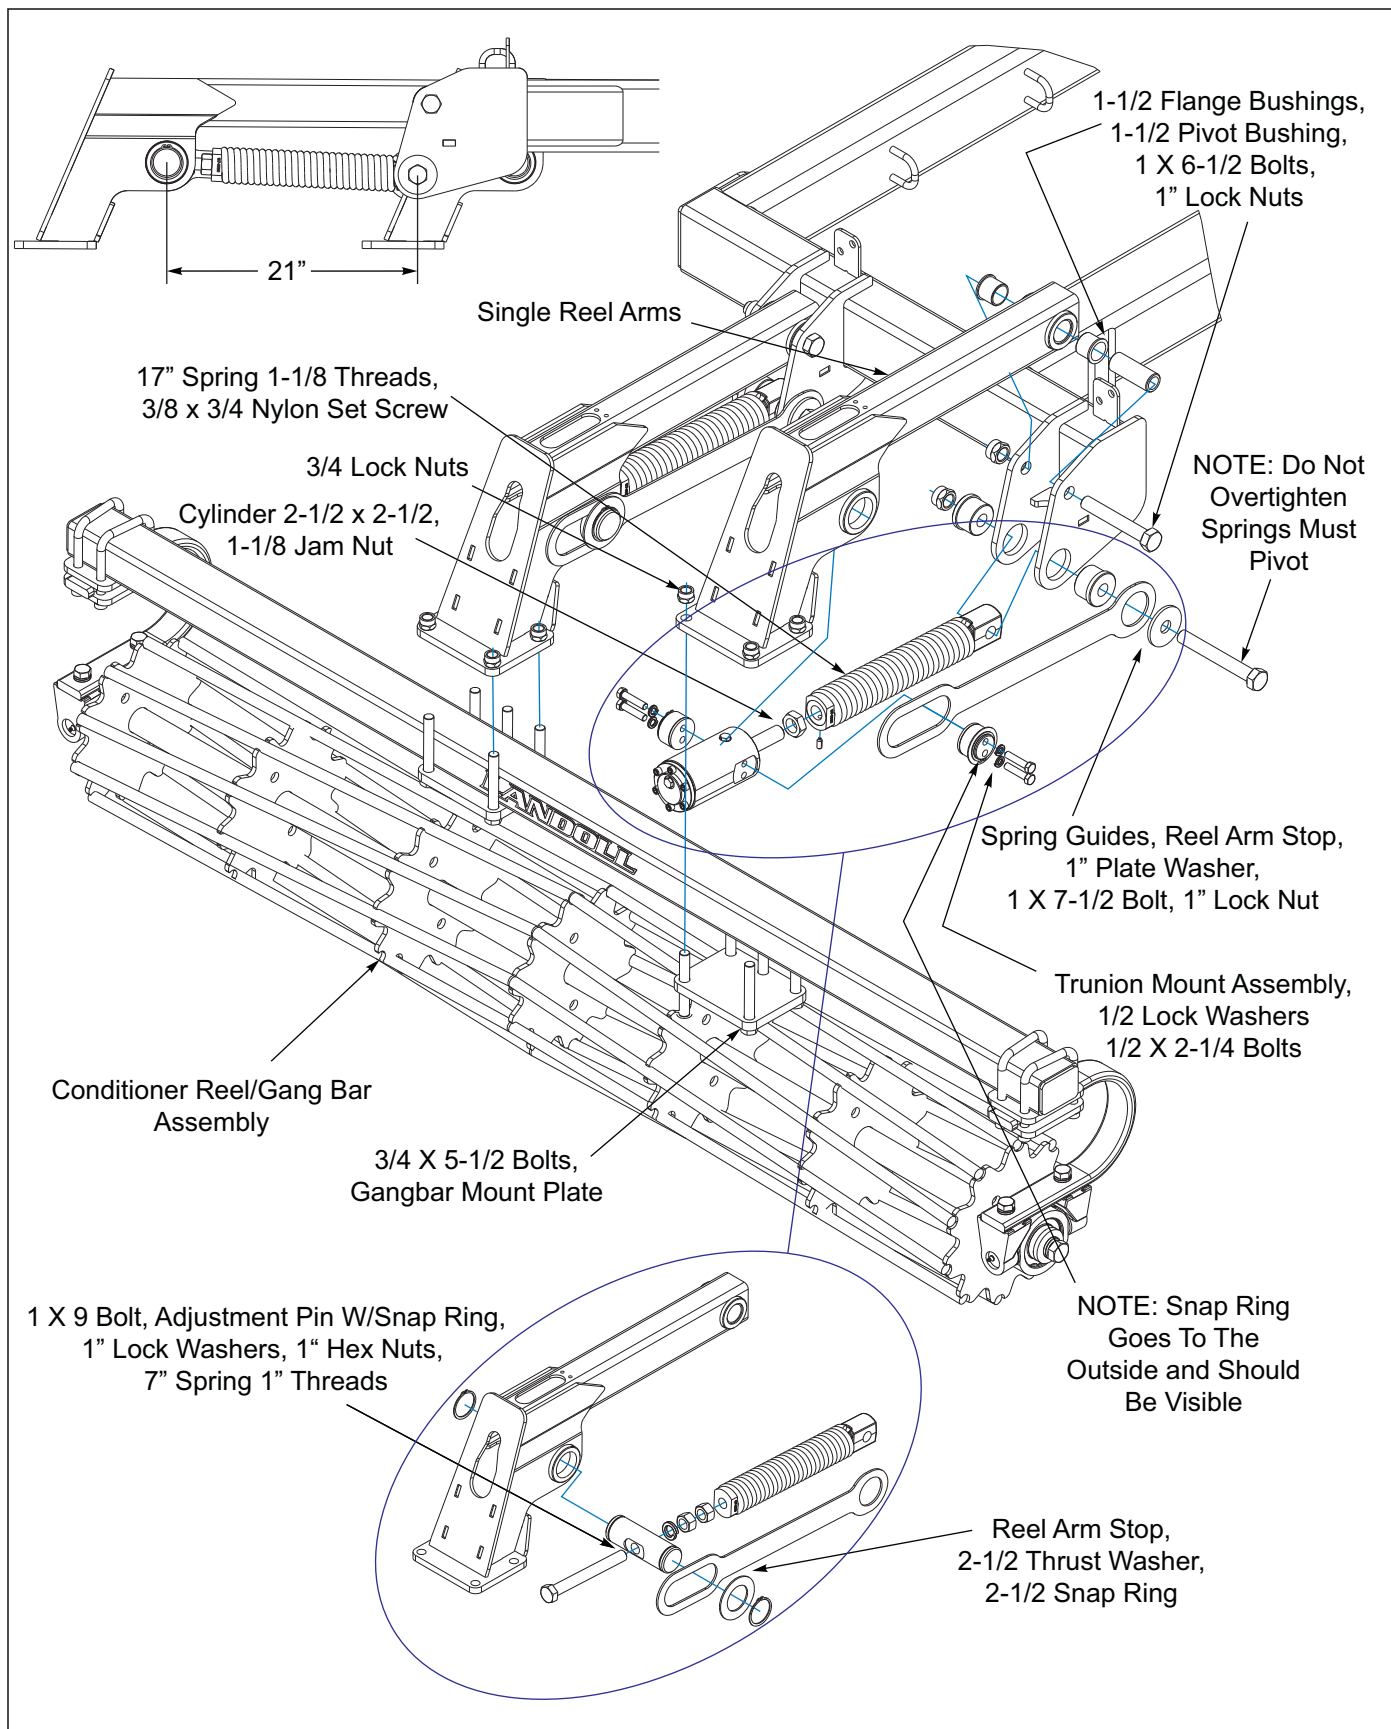

Figure 3-57: Conditioner Single Reel Installation 7531-23'-35'
1. **For Standard Reel Option, *See Figure 3-57*.** Slide the adjustment pin through the rear of single reel arm. Center frame secure with (2) 2-1/2 snap rings, Wings slide slotted hole end of reel arm stop over outer side of LT/RT wings, 2-1/2 thrust washer and 2-1/2 snap ring, both sides.
2. Assemble the 1 x 9 bolt through adjustment pin, 1" lock washer, (2) 1" hex nuts, and 17" spring (1" threads) assembly.
6. Set pin centers to 21" dimension as shown *See Figure 3-57*.
7. **For hydraulic reel option *See Figure 3-57*.** Attach the cylinder 2-1/2 x 2-1/2, 1-1/8 jam nut, and 17" spring (1-1/8" threads) to rear of single reel arm. Center frame secure with trunnion mount assembly, 1/2 lock washers, 1/2 x 2-1/4 bolts, both sides. Wings slide slotted hole end of reel arm stop over outer side of LT/RT wings, trunnion mount assembly, 1/2 lock washers, 1/2 x 2-1/4 bolts, both sides.
11. Set pin centers to 21" dimension as shown *See Figure 3-57*.
12. Attach conditioner reel/gang bar assembly to reel arms using gang bar mount plate, 3/4 x 5-1/2 bolts and 3/4 lock nuts as shown in *See Figure 3-57*. Refer to *See Figure 2-6* through *See Figure 2-15* for conditioner reel gang bar placement locations.